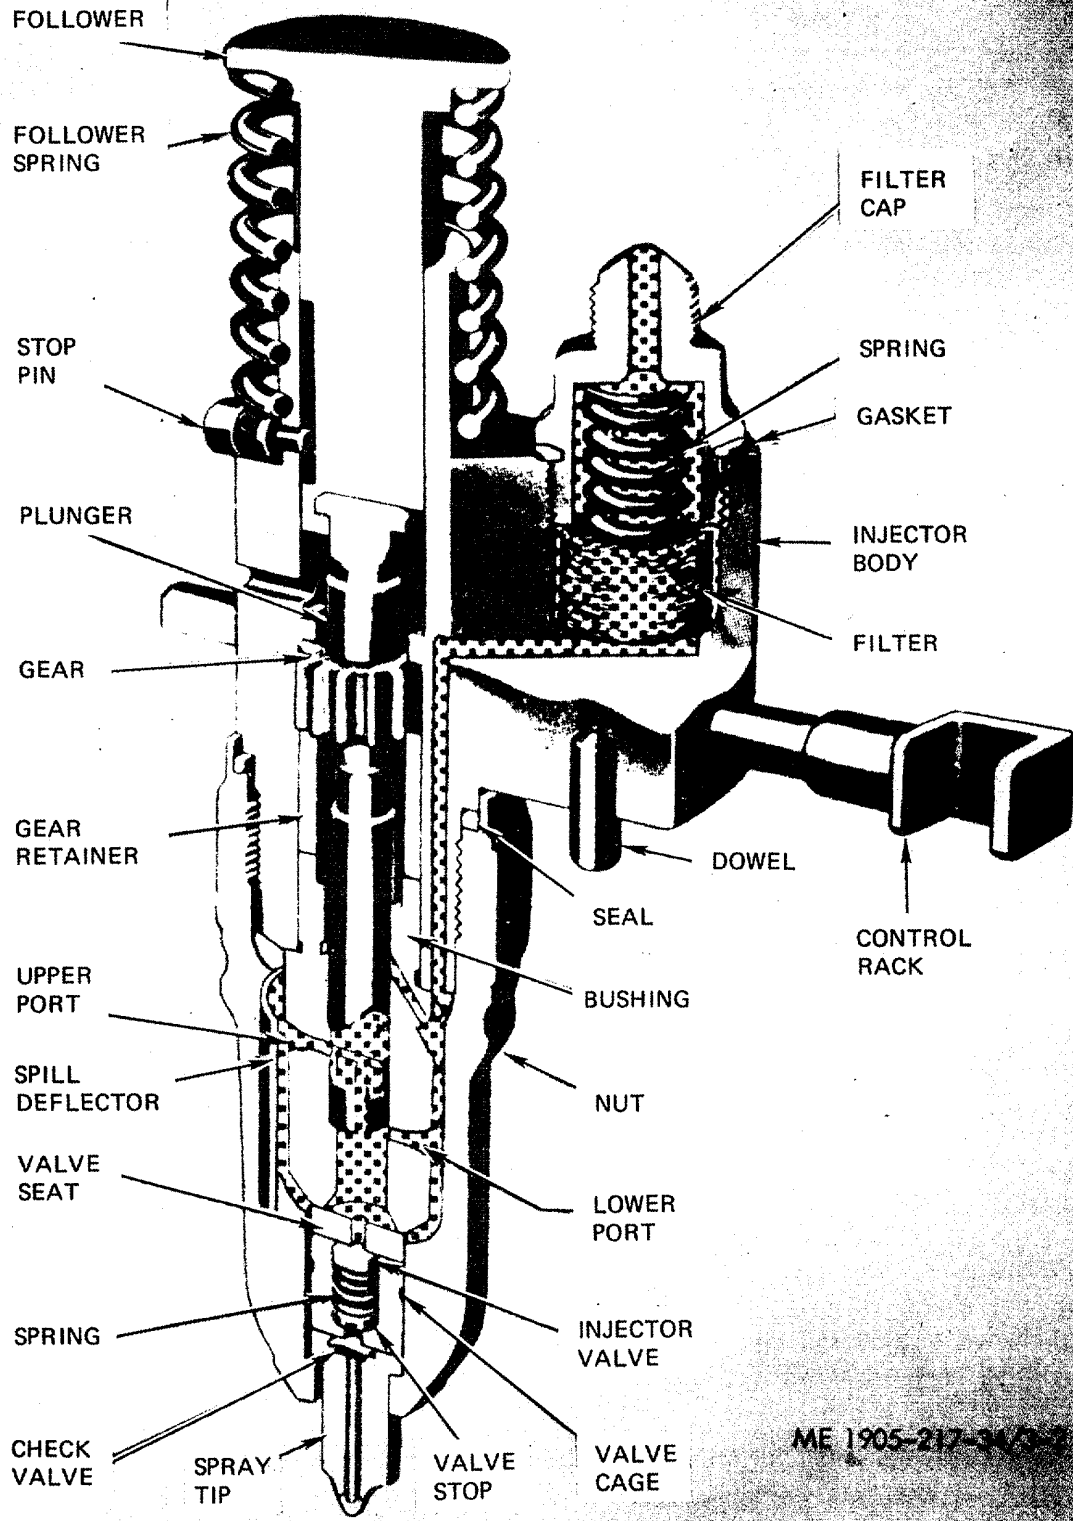
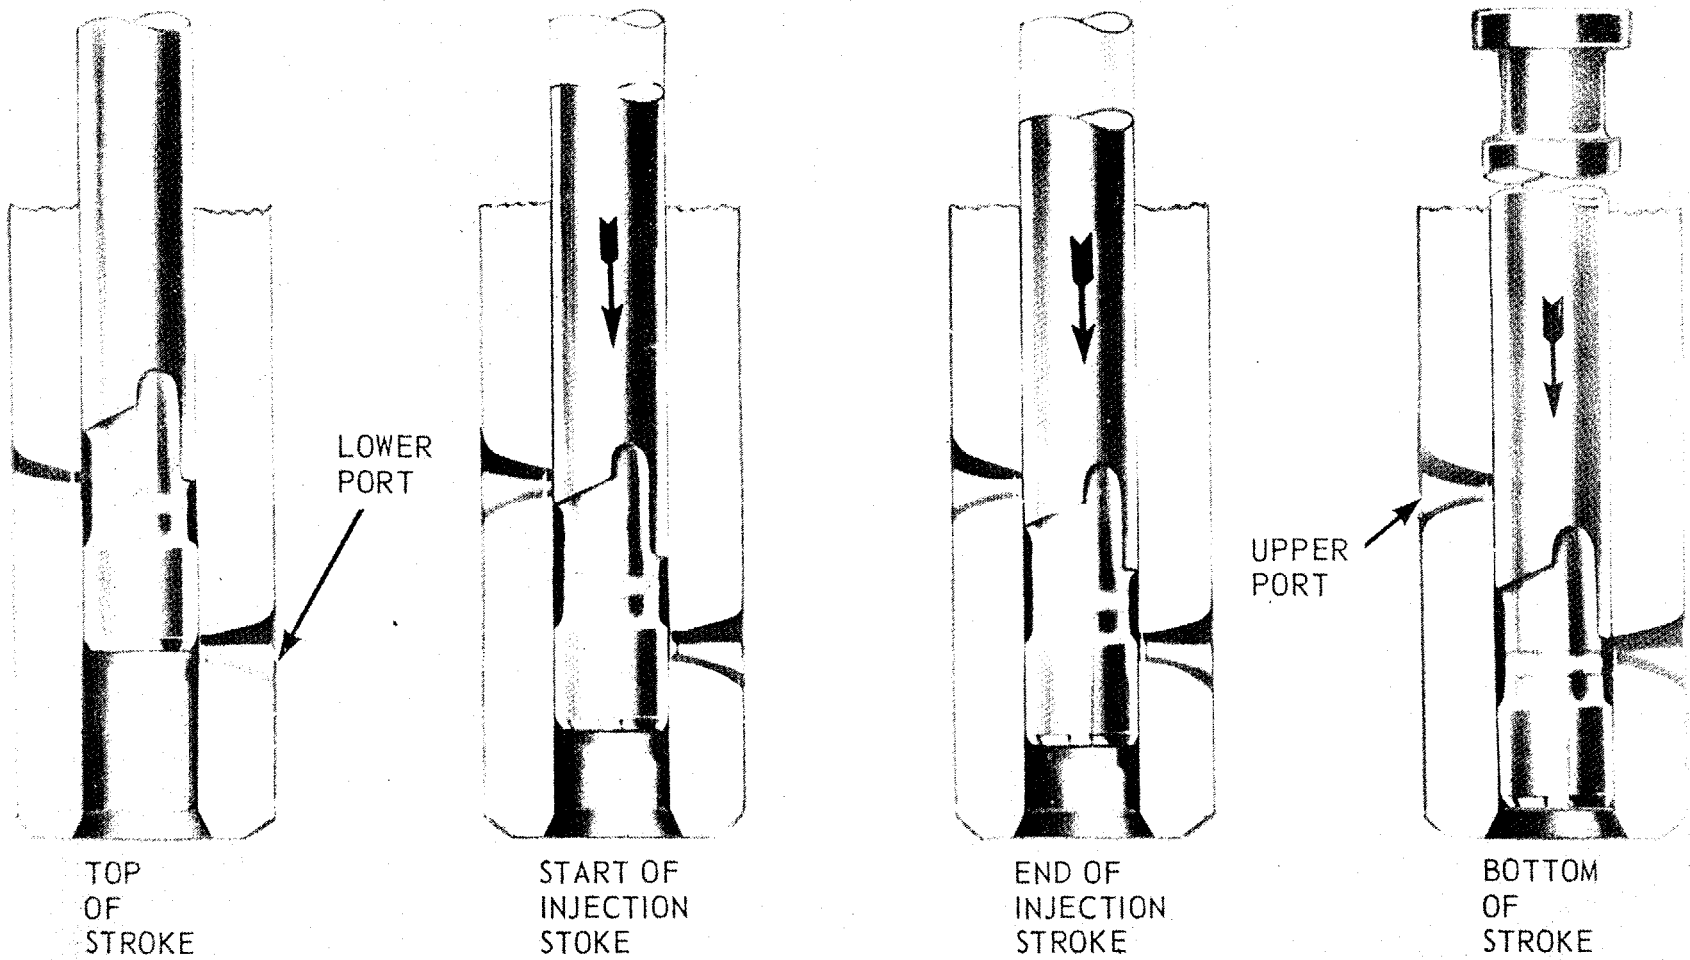

Figure 3-2. Fuel injector assembly.
Figure 3-4. Phase of fuel injector operation through vertical travel of plunger.
(1) The fuel injector (fig. 3-2) is a lightweight compact unit which enables quick easy starting on diesel fuel and permits the use of a simple open type combustion chamber. The fuel injector creates high fuel pressure required for efficient operation, it meters and injects the exact amount of fuel required to handle the load, atomizes the fuel for mixing with the air in the combustion chamber and permits continuous fuel flow.
(3) Figure 3-4 illustrates the phase of injector operation by the vertical travel of the injector plunger.
(4) Both the injector plunger and plunger bushing are marked with identical part numbers to properly identify them as mating parts. Therefore, if either plunger or bushing requires replacement, both must be replaced as an assembly.
(5) The fuel injector has a circular disk pressed into a recess at the front side of the injector body for identification purposes. The identification tag indicates the nominal output of the injector in millimeters. Each injector control rack (fig. 3-2) is actuated by a lever on the injector control tube which, in turn, is connected to the governor by means of a fuel rod. These levers can be adjusted independently on the control tube, thus permitting a uniform setting of all injector racks.
(1) Fuel under pressure, enters the injector at the inlet side through a filter cap (fig. 3-2) and a filter element. From the filter element the fuel passes through a drilled passage into the supply chamber, that area between the plunger bushing and the spill deflector, in addition to that area under the injector plunger within the bushing. The plunger operates up and down in the bushing, the bore of which is open to the fuel supply in the annular chamber by two funnel-shaped ports in the plunger bushing.
(2) The motion of the injector rocker arm is transmitted to the plunger (fig. 3-2) by the follower which bears against the follower spring. In addition to the reciprocating motion, the plunger can be rotated, during operation, around its axis by the gear which meshes with the control rack. For metering the fuel, an upper helix and a lower helix are machined in the lower part of the plunger. The relation of the helices to the two ports, changes with the rotation of the plunger.
(3) As the plunger moves downward, under pressure of the injector rocker arm, a portion of that fuel trapped under the plunger is displaced into the supply chamber through the lower port until the port is closed off by the lower end of the plunger. A portion of the fuel trapped below the plunger is then forced up through a central passage into the plunger fuel metering recess and into the supply chamber through the upper port until the port is closed off by the upper helix of the plunger. With the upper and lower ports both closed off, the remaining fuel under the plunger is subjected to increased pressure by the continued downward movement of the plunger.
(4) When sufficient pressure is built up, the injector valve is lifted off its seat and the fuel is forced through small orifices in the spray tip (fig. 3-2) and atomized into the combustion chamber.
(5) A check valve (fig. 3-2), mounted in the spray tip, prevents air leakage from the combustion chamber into the fuel injector in case the injector valve is accidentally held open by a small particle of dirt. The injector plunger is then returned to its original position by the injector follower spring. Figure 3-4 shows the various phases of injector operation by the vertical travel of the injector plunger.
(6) On the return upward movement of the plunger, the high pressure cylinder within the bushing is again filled with fuel oil through the ports, the constant circulation of fresh cool fuel through the injector renews the fuel supply in the chamber, helps cool the injector and also, effectively removes all traces of air which might otherwise accumulate in the system and interfere with accurate fuel metering.
(1) Injector rack and plunger movement. Check to see if plunger (fig. 3-2) works freely in its bushing by placing the injector against a bench (fig. 3-5) and depressing the follower to the bottom of its stroke while moving the rack back and forth. Failure to produce a free rack indicates the internal parts of the injector are dirty or damaged.